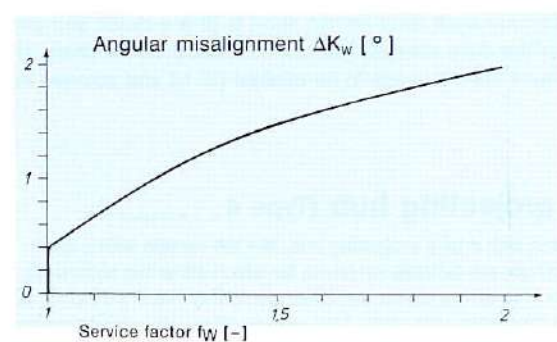

Fig. 16
- $f_W$  = Service factor according to shaft misalignment [-], fig. 16